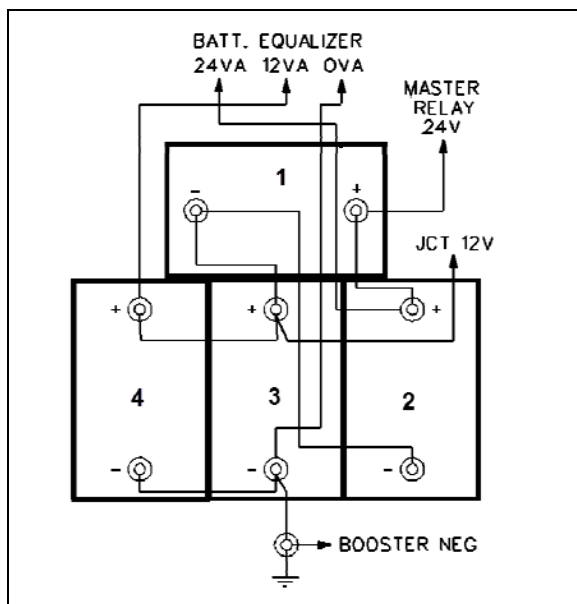

FIGURE 11 : H3 SERIES BATTERY CONNECTIONS (STANDARD ACID-LEAD GROUP 31)
The vehicle is provided with four (4) maintenance-free 12 volt heavy-duty batteries connected in series-parallel (**FIGURE 11**)